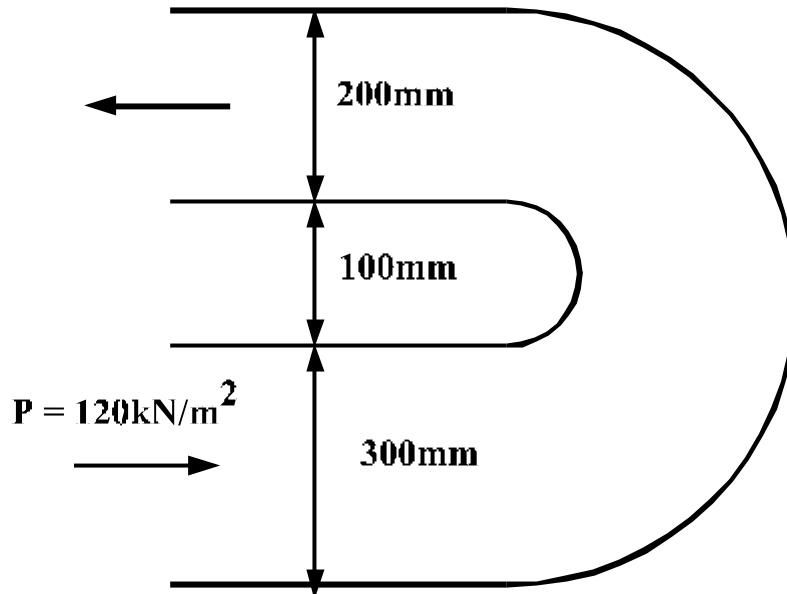

Figure 2
- 2 Water flows along a circular pipe and is turned vertically through 180° by a reducing bend as shown in figure 2. The rate of flow in the pipe is 20 litres/s, the pressure measured at the entrance to the bend is 120 kN/m^3 and the volume of fluid in the bend is 0.1 m^3 . What is the magnitude and direction of the force exerted by the fluid on the bend? Ignore any friction losses.